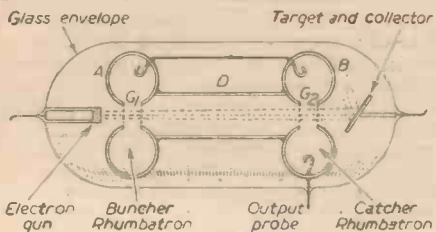

Fig. 16.—The klystron oscillator.
It is now possible to examine the most important velocity modulation oscillator invented by Varian⁴ and known as the klystron oscillator, which is capable of generating oscillations of the order of 10,000 Mc/s. The klystron employs a cavity resonator termed a rhumbatron (Fig. 15), and a schematic diagram of an early klystron having two rhumbatrons; a "buncher rhumbatron" and a "catcher rhumbatron" is shown in Fig. 16. The operation is based upon the velocity modulation principle already referred to; electrons emitted from the cathode are accelerated by a positive potential applied to the resonator system, i.e., the rhumbatrons A and B connected electrically by the drift tube D. If no oscillations are present in rhumbatron A and B the electrons travel normally to the collector C at the velocity they enjoyed upon entering the resonator. Very different is the case when oscillations exist in A and B. Consider electrons arriving at the gap G_1 in rhumbatron A, oscillations existing therein. The electrons have a certain velocity, and depending upon the phase of the oscillations in A they are accelerated or decelerated in traversing the gap G_1 . Upon entering the drift space of the drift tube D, the electrons travel at a constant velocity but at different velocities according to their treatment at gap G_1 ; in fact the electrons are velocity modulated and bunched. If gap G_2 in rhumbatron B is so spaced from rhumbatron A that the electrons reach G_2 when they have experienced maximum bunching, two main things may occur at gap G_2 . (1) The bunch may be accelerated; (2) the bunch may be decelerated. If the first occurs then power is extracted from rhumbatron B and the oscillations therein will be damped. If the second case occurs, then power will be supplied to rhumbatron B, and this will sustain the oscillations. In actual operation, power is not supplied to rhumbatron B continuously, but the oscillator is arranged so that a net gain of power is effected over a complete cycle.